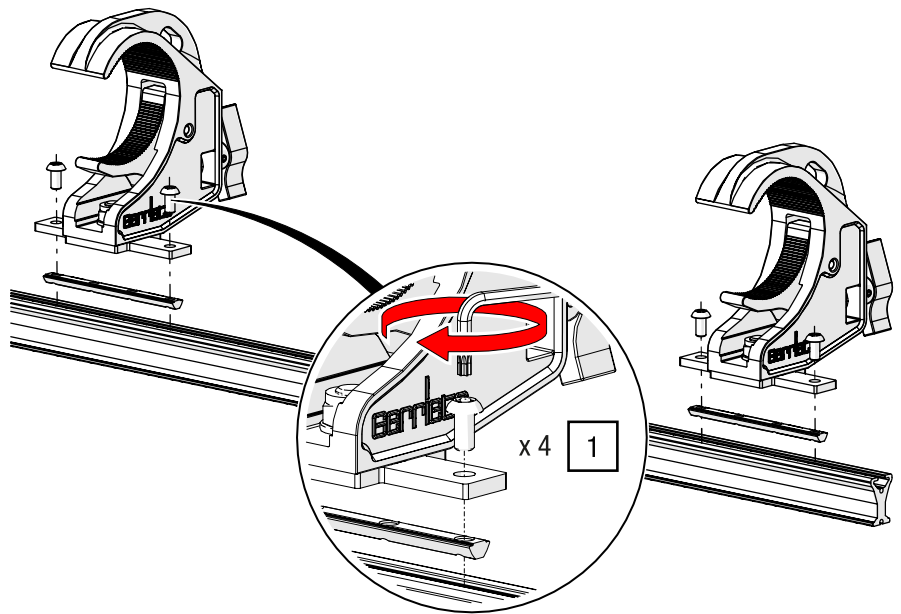

Fig. 44: G-CLAMP direct – Assembly with slot nut
- Mount the G-CLAMP with a 4-way slot nut and a TORX®-key T25 to the track (see Fig. 44).